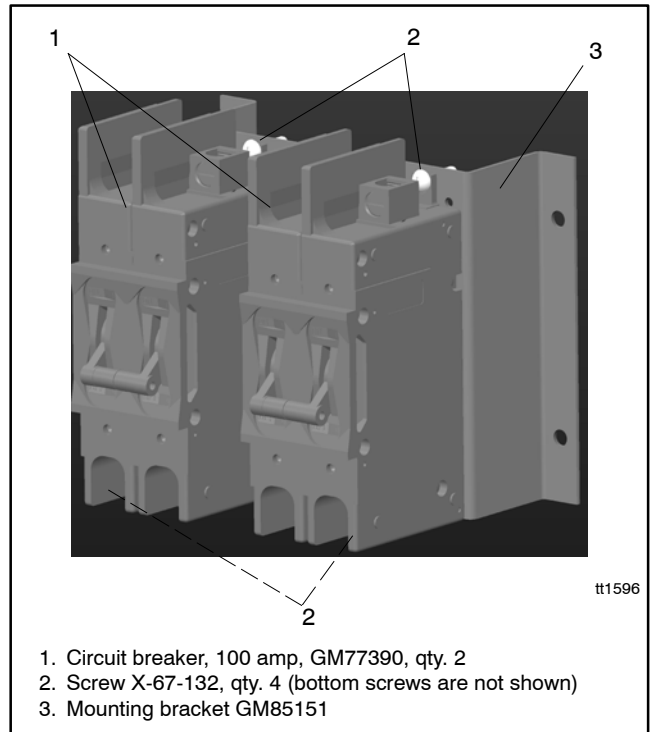

Figure 11 100 Amp Circuit Breaker Mounting, 20RESA and 20RESB
- c. Use 2 X-67-132 thread-forming screws to attach each circuit breaker to the mounting bracket. See Figure 11.